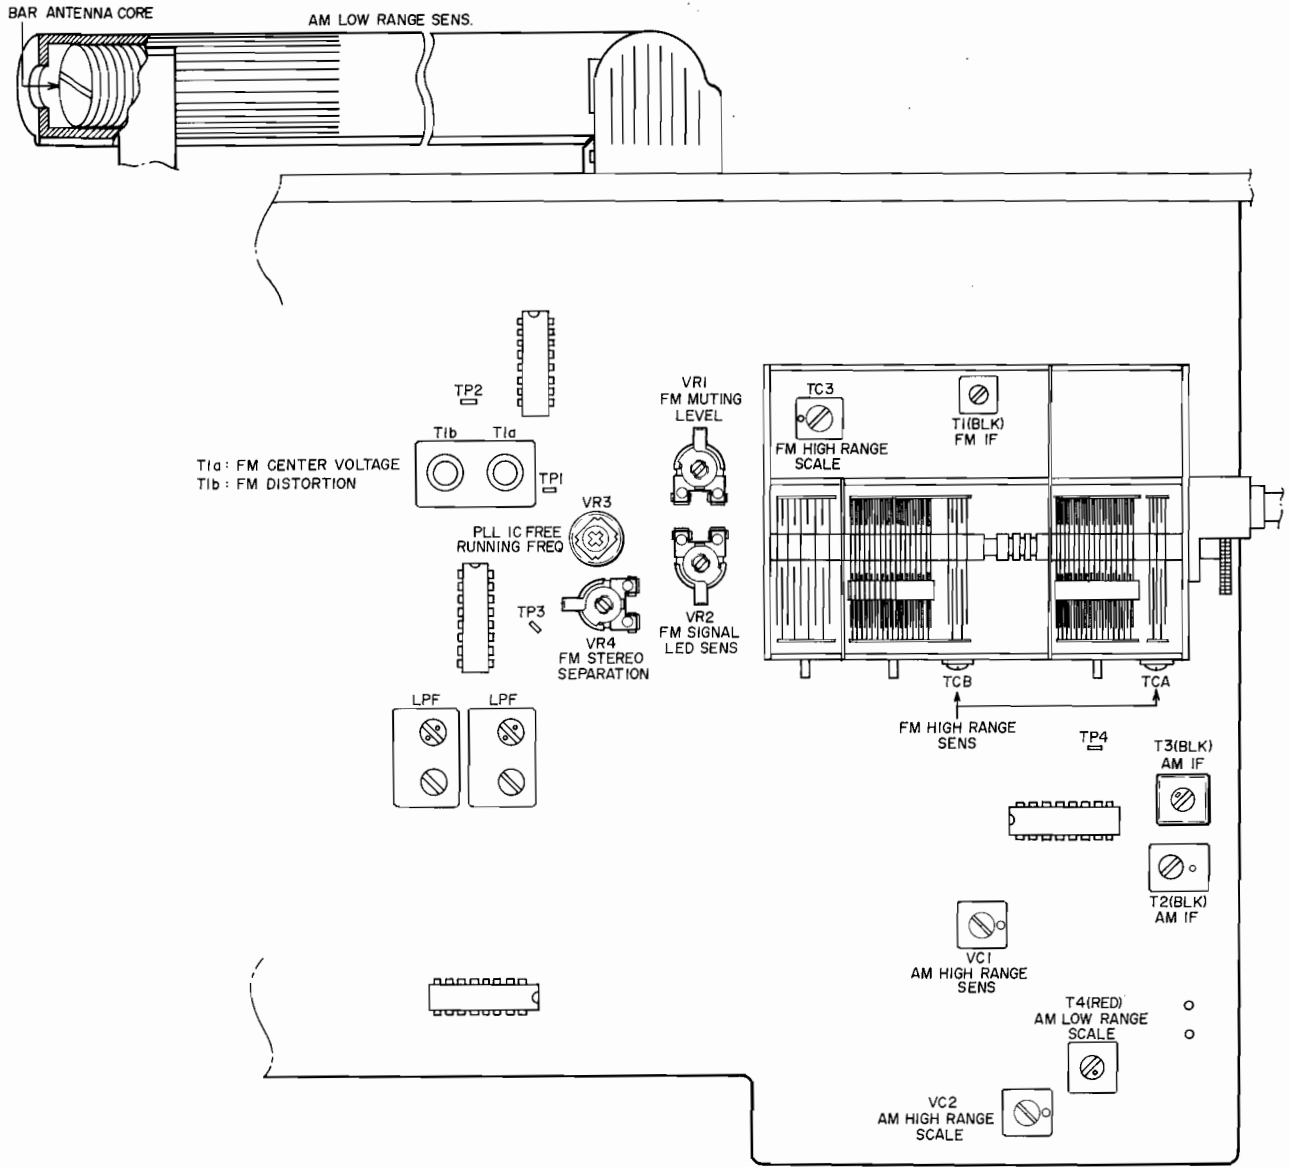
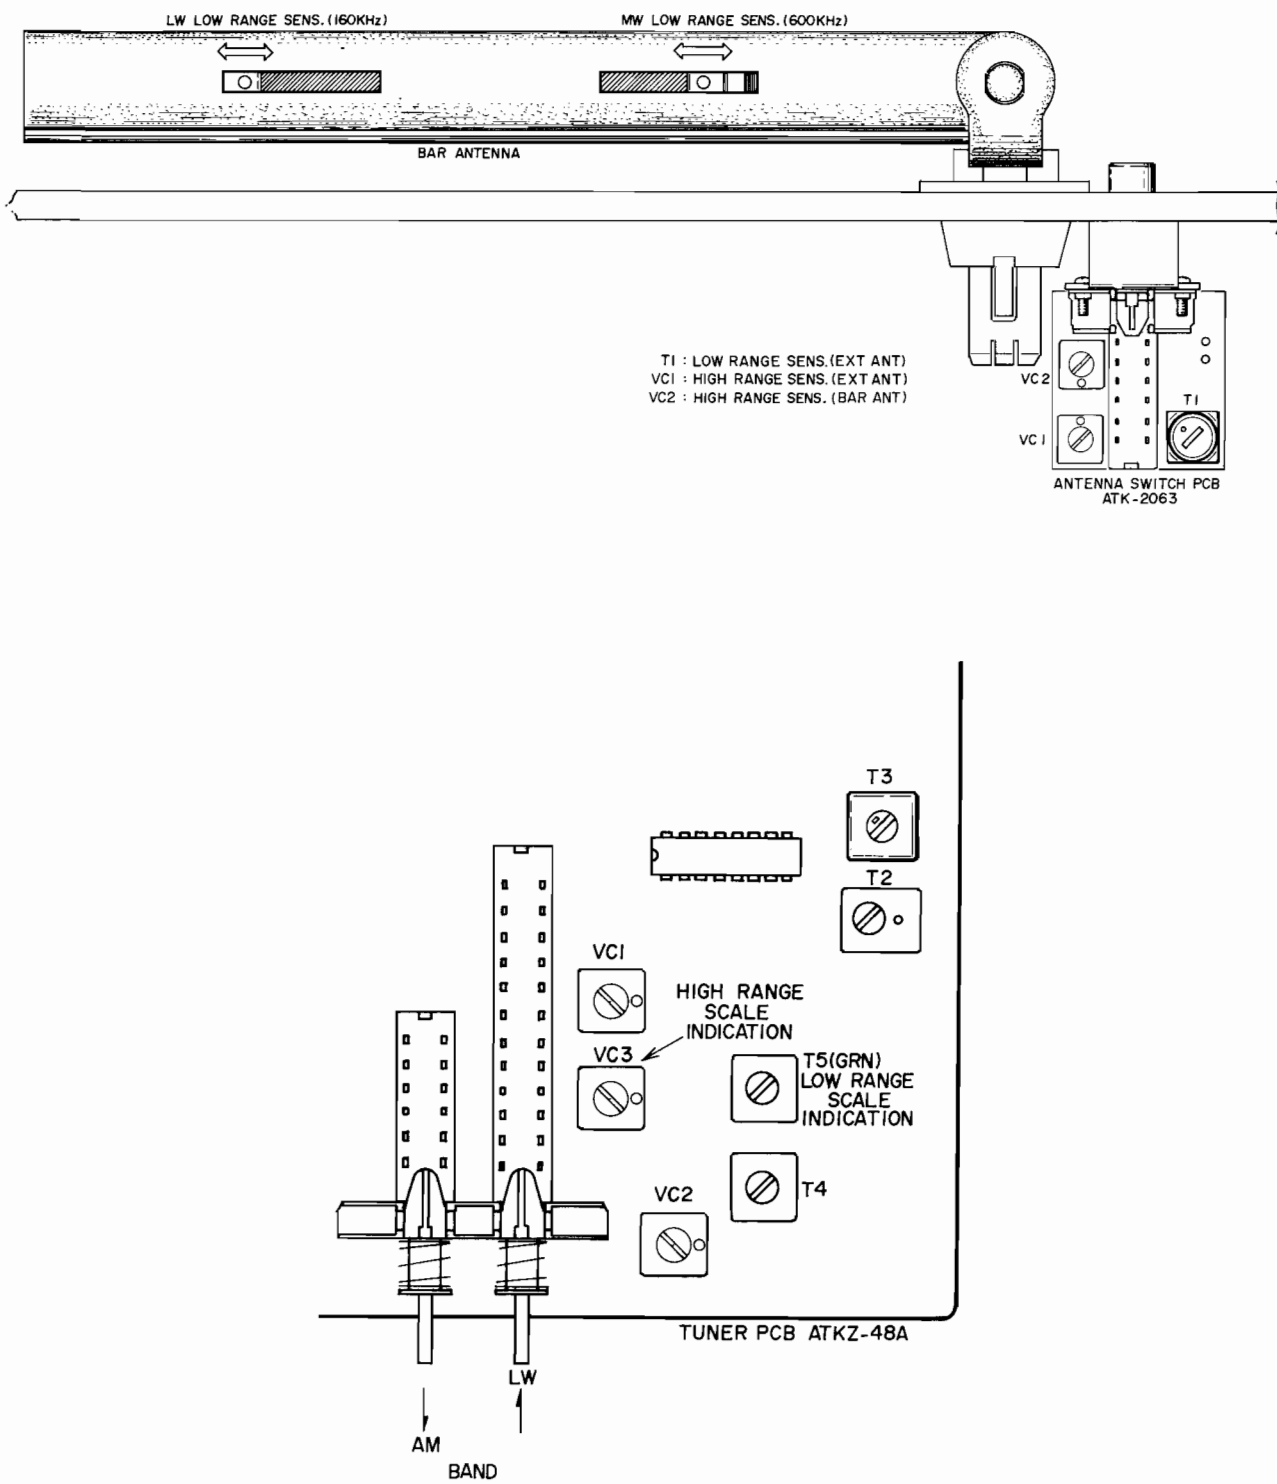

Fig. 5 Tuner P.C Board
Fig. 6 Tuner P.C Board ATKZ-48A and Antenna Switch P.C Board ATK-2063 (Model AT-K33L)
1. FM SECTION ADJUSTMENTS (Refer to Figs. 5, 7, 8)
Unless otherwise specified, use the adjustment points provided on the Tuner P.C Board (Fig. 5).
2. AM (AT-K33L: MW) SECTION ADJUSTMENTS (Refer to Figs. 5, 6, 7, 9)
| 5 | Low Range Sensitivity | Bar Antenna Core AT-K33/J: Fig. 5 AT-K33L: Fig. 6 | Maximum Output Distortion Factor: Less than 10% | 600 kHz, 50 dB, 400 Hz (30%) input. |
3. LW SECTION ADJUSTMENTS (AT-K33L Only; Refer to Figs. 6, 9, 10)